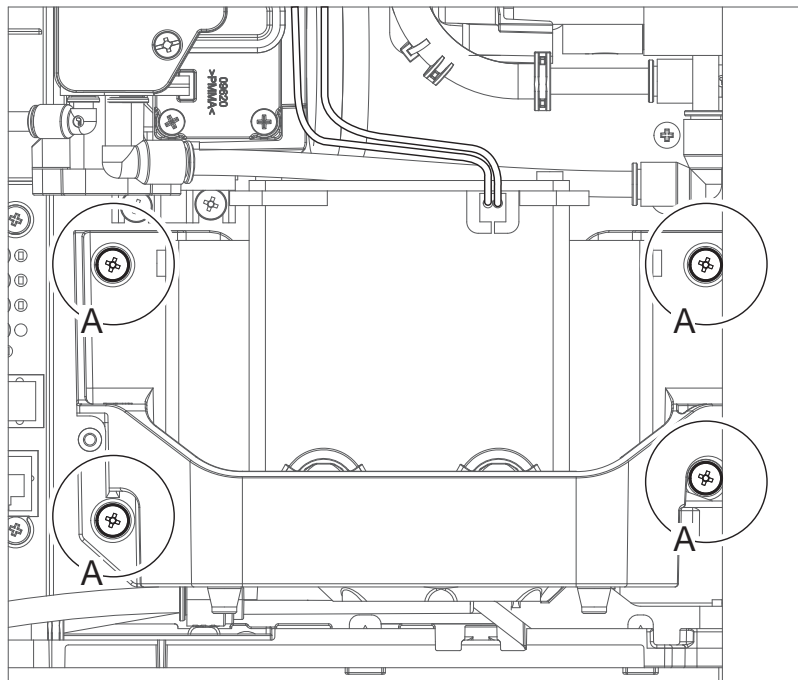

Figure 7-14: Remove pump retaining screws
8. Remove the four screws (A) which hold the pump to the detector's base (Figure 7-14).